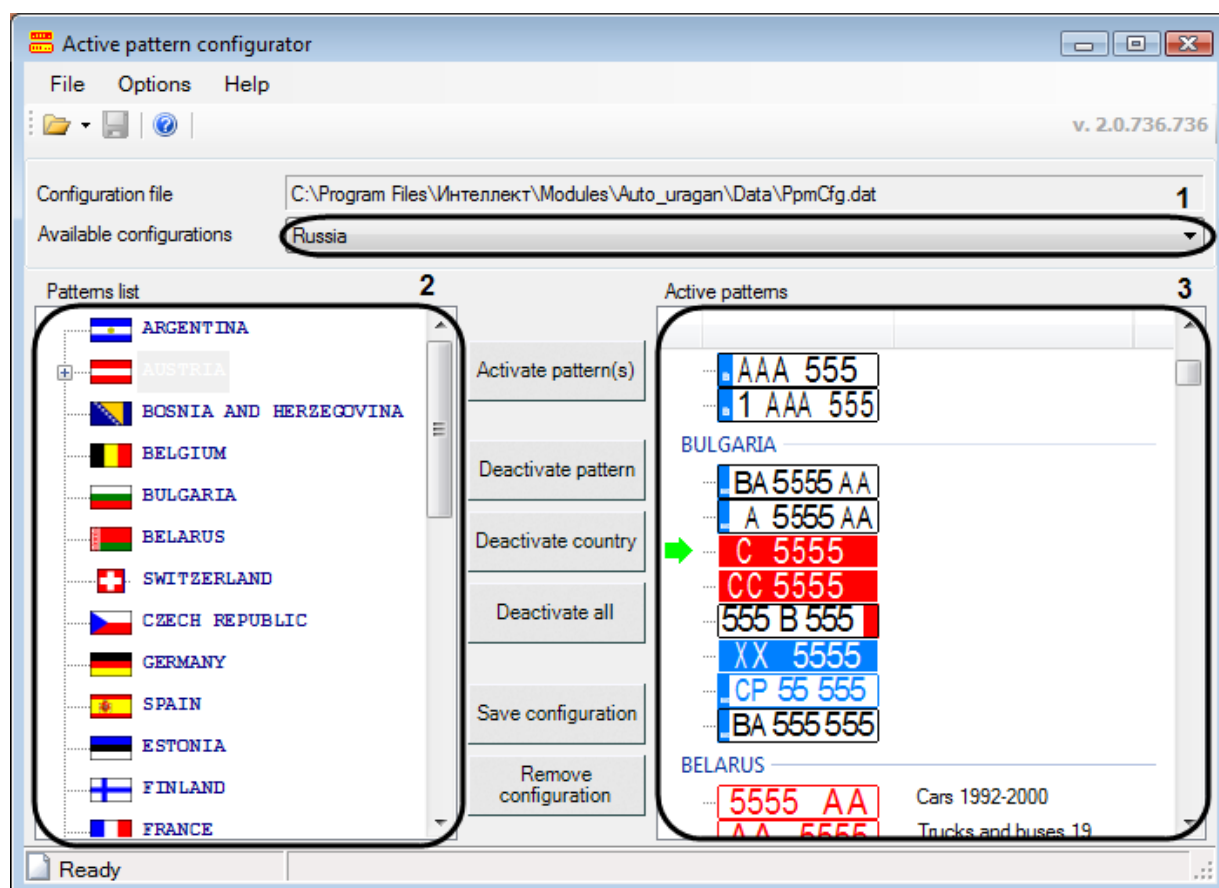

Fig. 12.3—5 Select configuration from the list
3. List of patterns will be displayed in the «Pattern list» field (Fig. 12.3—5, 2).
4. Pattern list of selected configuration will be displayed in the «Active patterns» field (Fig. 12.3—5, 3).